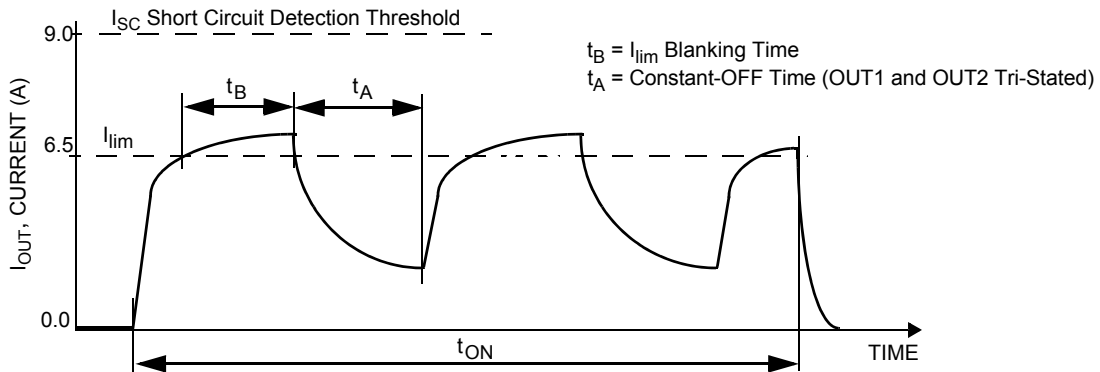
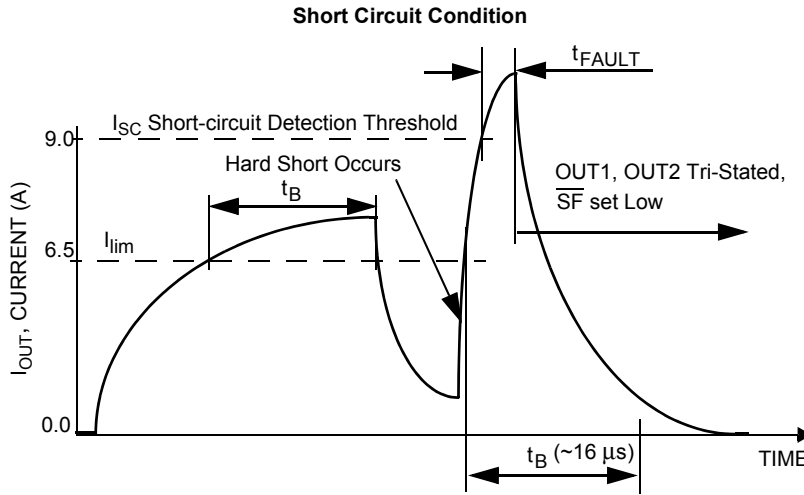
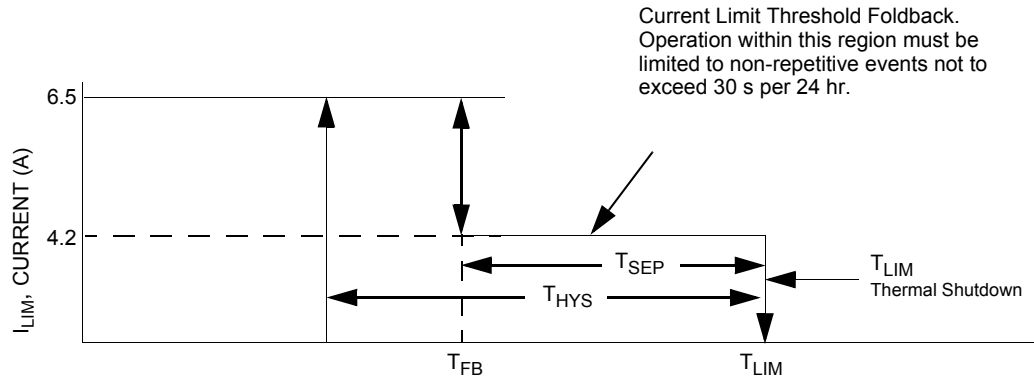

Figure 7. Current Limit Blanking Time and Constant-OFF Time
Figure 8. Short-circuit Detection Turn-OFF Time t_{FAULT}
Figure 9. Output Current Limiting Foldback Region
| Output Current Regulation Threshold $T_J < T_{FB}$ $T_J \geq T_{FB}$ (Fold back Region - see Figure 9 and Figure 11) ⁽¹³⁾ | I_{LIM} | 5.2 | 6.5 | 8.0 | A |
27. Load currents ramping up to the current regulation threshold become limited at the I_{LIM} value (see Figure 7). The short-circuit currents possess a di/dt that ramps up to the I_{SCH} or I_{SCL} threshold during the I_{LIM} blanking time, registering as a short-circuit event detection and causing the shutdown circuitry to force the output into an immediate tri-state latch-OFF (see Figure 8). Operation in Current Limit mode may cause junction temperatures to rise. Junction temperatures above $\sim 160^\circ\text{C}$ will cause the output current limit threshold to “fold back”, or decrease, until $\sim 175^\circ\text{C}$ is reached, after which the T_{LIM} thermal latch-OFF will occur. Permissible operation within this fold back region is limited to non-repetitive transient events of duration not to exceed 30 seconds (see Figure 9).